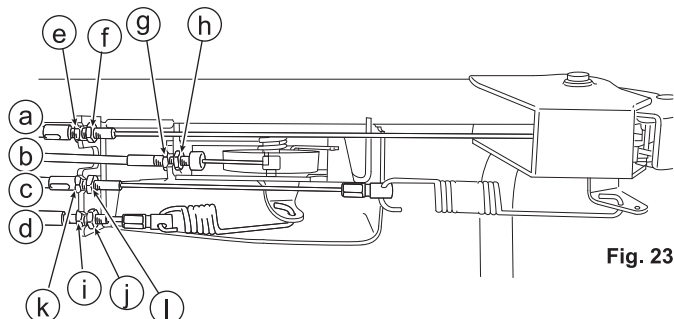

Fig. 23
8.5.1 Throttle Lever (See Figs. 23 and 24)
8.5.2 Blade Lever (See Figs. 23 and 25)
3. Confirm that the blade stops completely when the blade lever (C) is released.
8.5.3 Drive Clutch Lever (See Figs. 23 and 26)
3. Confirm that the machine can be pulled backward when the drive clutch lever (B) is released.
8.5.4 Gearshift Lever (See Figs. 23 and 27)